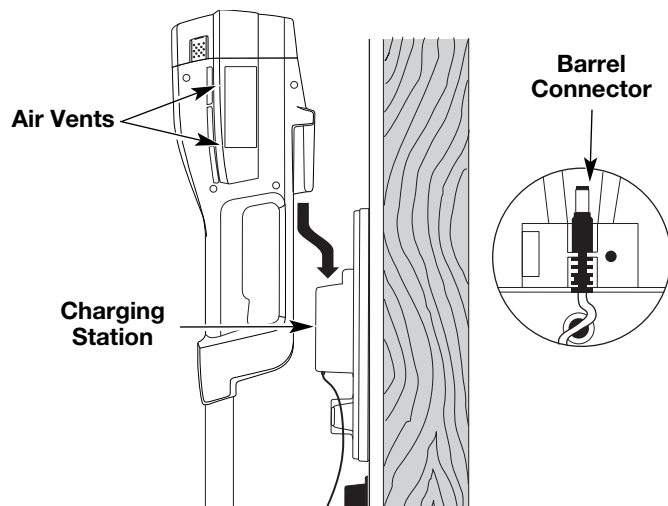

Fig. 4
1. Slide the unit down into the charging station until it is firmly seated (Fig. 4). The barrel connector in the charging station will insert into the unit. If it doesn't, refer to *Replacing the Charger*.
**NOTE:** The battery will heat up while the unit charges. Be sure the air vents on the battery housing are kept clear for proper ventilation (Fig. 4).